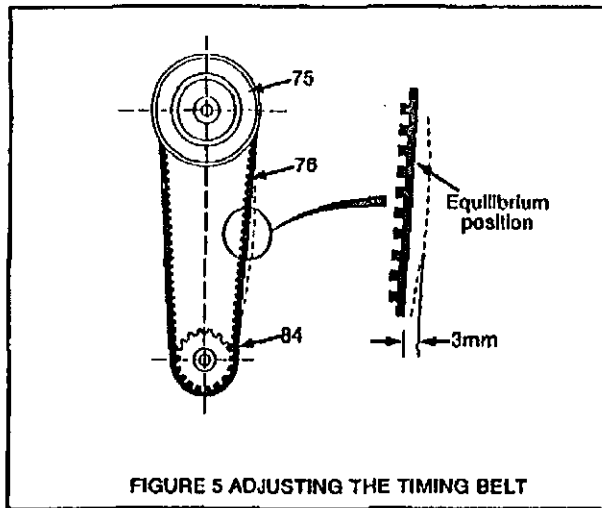

FIGURE 5 ADJUSTING THE TIMING BELT
Remove the housing cover (79) and adjust the timing belt (76) by gently pulling on the belt at the lower end of the motor pulley (75), so that the horizontal movement in the centre of the belt, is approximately 3 mm from the equilibrium position (see Figure 5).